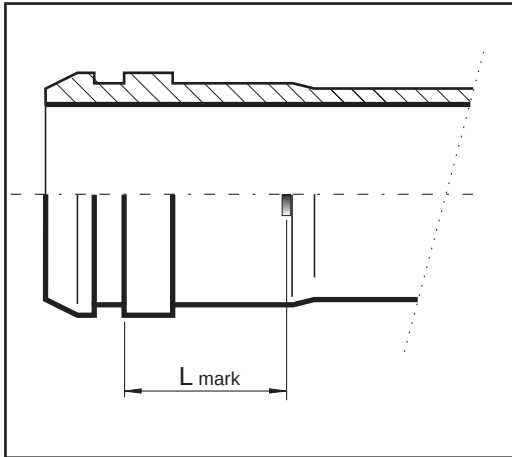

Fig. 5.2.b.
- Insert a round tool like a screwdriver underneath the rubber ring and work it around the pipe a few times in order to distribute the tension (see Fig 5.2.c.).